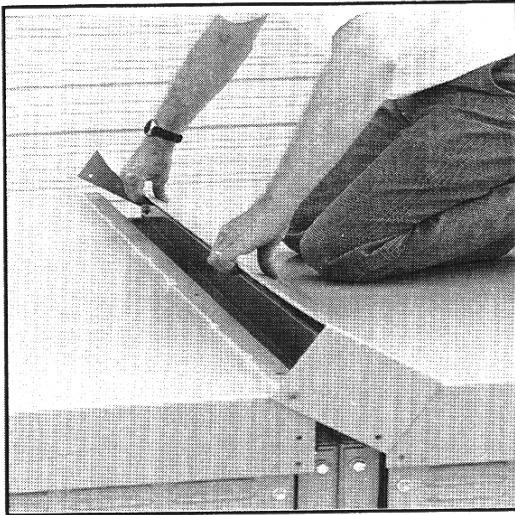

Fig. 4 Roof Cap Installation
- e. Hold the edge of the roof cap adjacent to the pencil line, then rotate over onto the bead(s) of caulk, aligning with the bolt holes in the roof as the action is completed. (See Fig. 4)